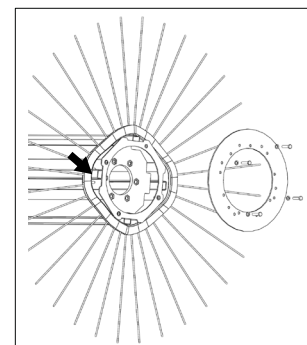

figure 3
- a. Slide the first section onto the core with the drive pins on each side of a tube. Make sure that the drive pins angle up (figure 3).